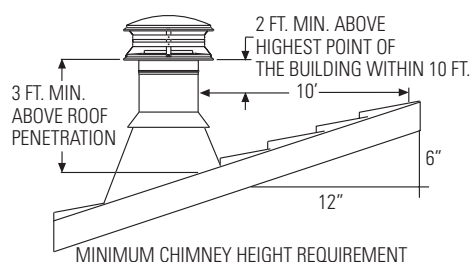

Figure 1
- Determine the minimum chimney height above the roof line. Building codes require a minimum of 3' above the roof penetration and at least 2' higher than any portion of a building within 10'. See Figure 1. The termination cap is installed above that point. If chimney is more than 5' above the roof penetration a Roof Brace is required.